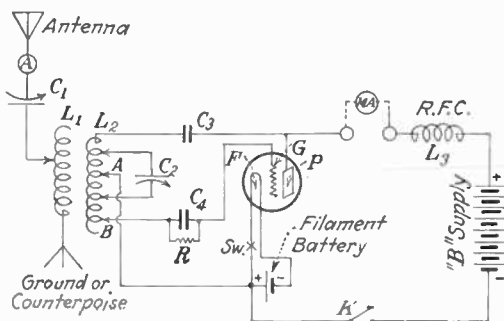

Fig. 88.—Wiring diagram of a simple amateur transmitter.
*Ans.* The complete operation of the transmitter illustrated in Figs. 88 and 89 is as follows:
*Ans.* A diagram of a low-power amateur transmitter is illustrated in Fig. 88, and the function of each part follows: